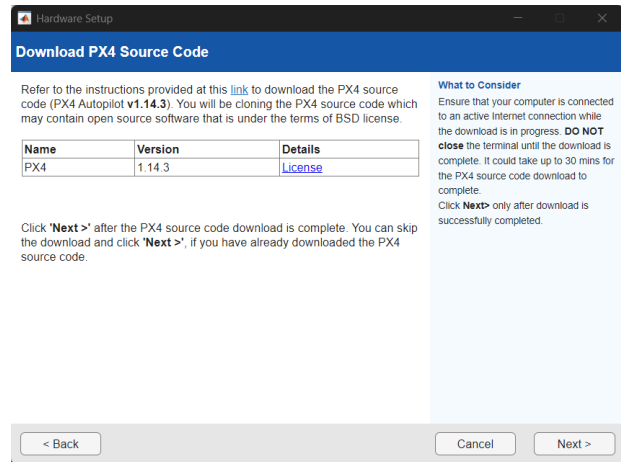

Figure B.4: Screenshot of the PX4 source code download instructions window.
5. **[Initial Only]** Next, download the PX4 source code following the steps in Section B.2.2 if this step has not been done already. The cloning instructions correspond to the instruction documentation linked in the “Download PX4 Source Code” screen shown in Figure B.4. Once the source code has been cloned and initialized, proceed to the next screen.